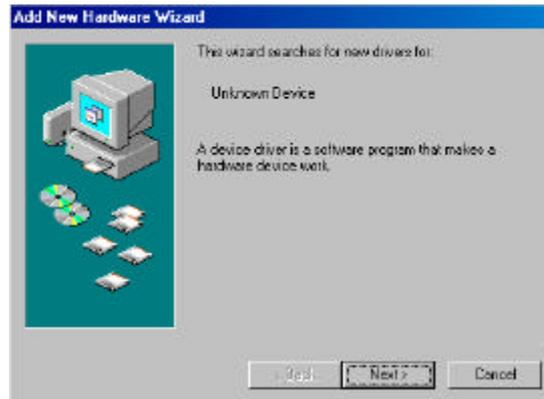

Figure 2-4
1. When you connect the USB cable to your host system for the first time, a dialog box similar to Figure 2-4 appears. Click the Next button.